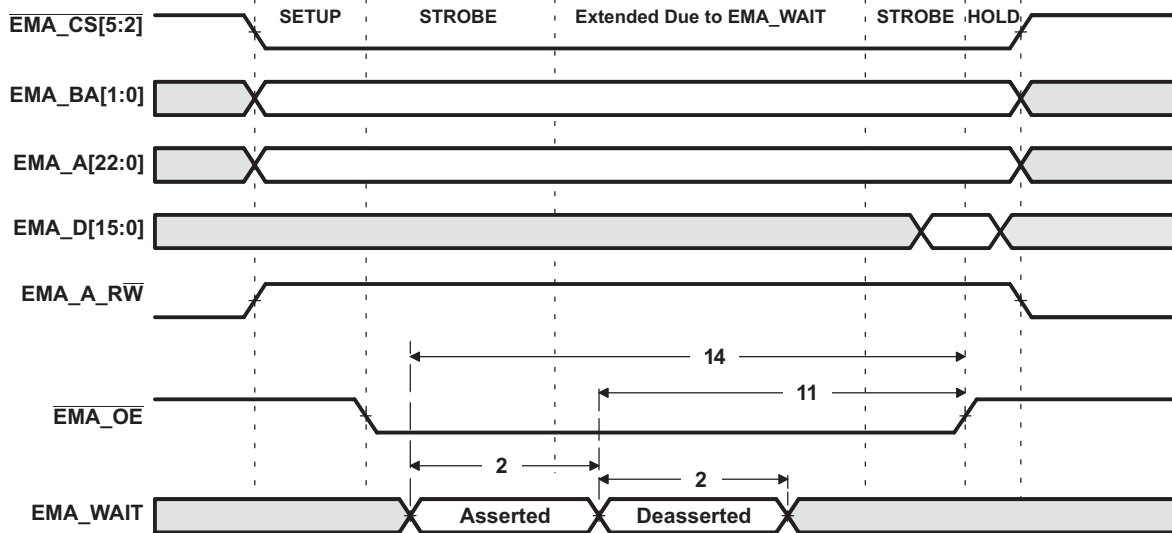
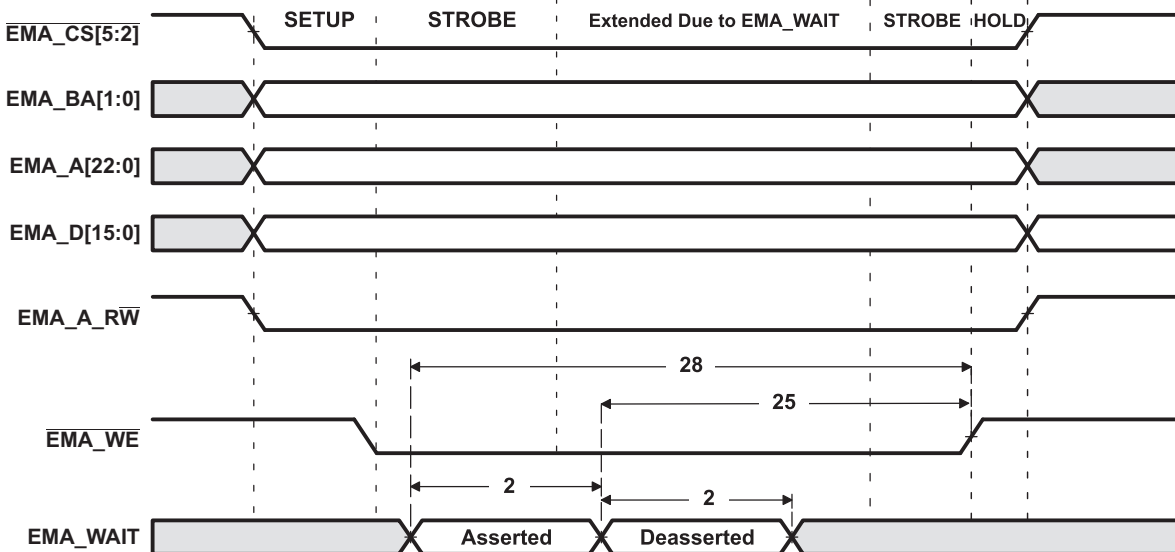

Figure 6-16. EMA\_WAIT Read Timing Requirements
Figure 6-17. EMA\_WAIT Write Timing Requirements
- (1) E = EMA\_CLK period or in ns. EMA\_CLK is selected either as SYSCLK3 or the PLL0 output clock divided by 4.5. As an example, when SYSCLK3 is selected and set to 100MHz, E=10ns
- (2) Setup before end of STROBE phase (if no extended wait states are inserted) by which EM\_WAIT must be asserted to add extended wait states. Figure 6-16 and Figure 6-17 describe EMIF transactions that include extended wait states inserted during the STROBE phase. However, cycles inserted as part of this extended wait period should not be counted; the 4E requirement is to the start of where the HOLD phase would begin if there were no extended wait cycles.
**Table 6-22. Switching Characteristics for EMIFA Asynchronous Memory Interface** (1) (2) (3)